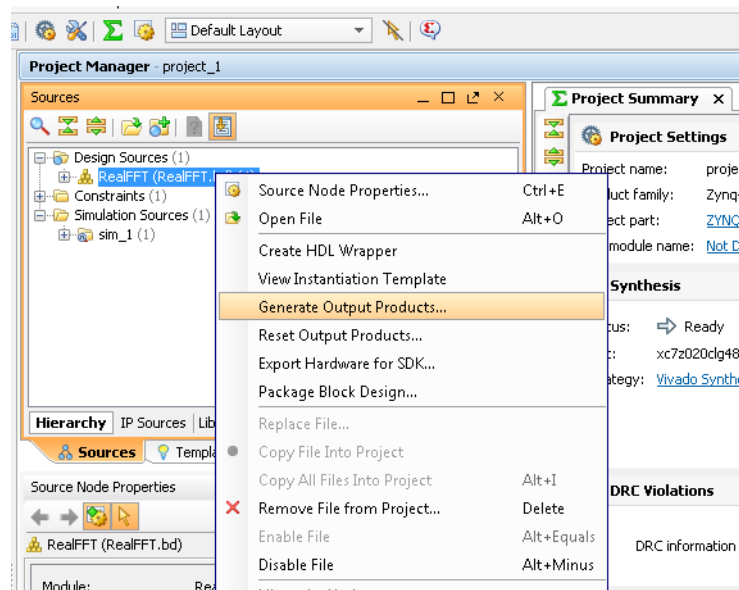

Figure 9-23: Generating Output Products
- a. In the Sources window (Figure 9-23), right-click `RealFFT.bd` and select **Generate Output Products**.